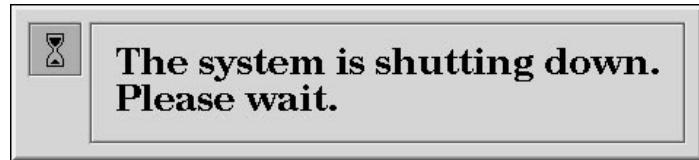

Figure 8-1 System Shutdown Notifier
2. After a few seconds you see the notifier shown in Figure 8-1.